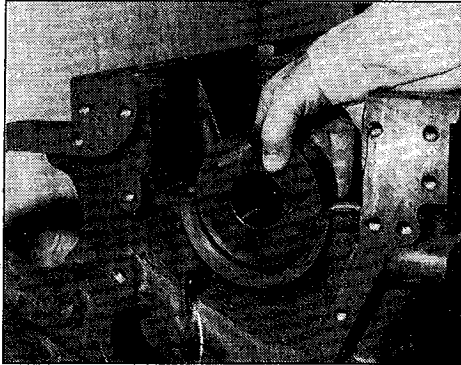

FIG. 2 INSTALLING CENTERING RING
1. Install the appropriate centering ring (from your Line Bore Bar) in the #1 main bearing and the thrust bearing saddle. The centering ring in the thrust saddle should be centered in the saddle such that it will clear the cutter holder when cutting the thrust bearing surface. (See Fig. 2.)